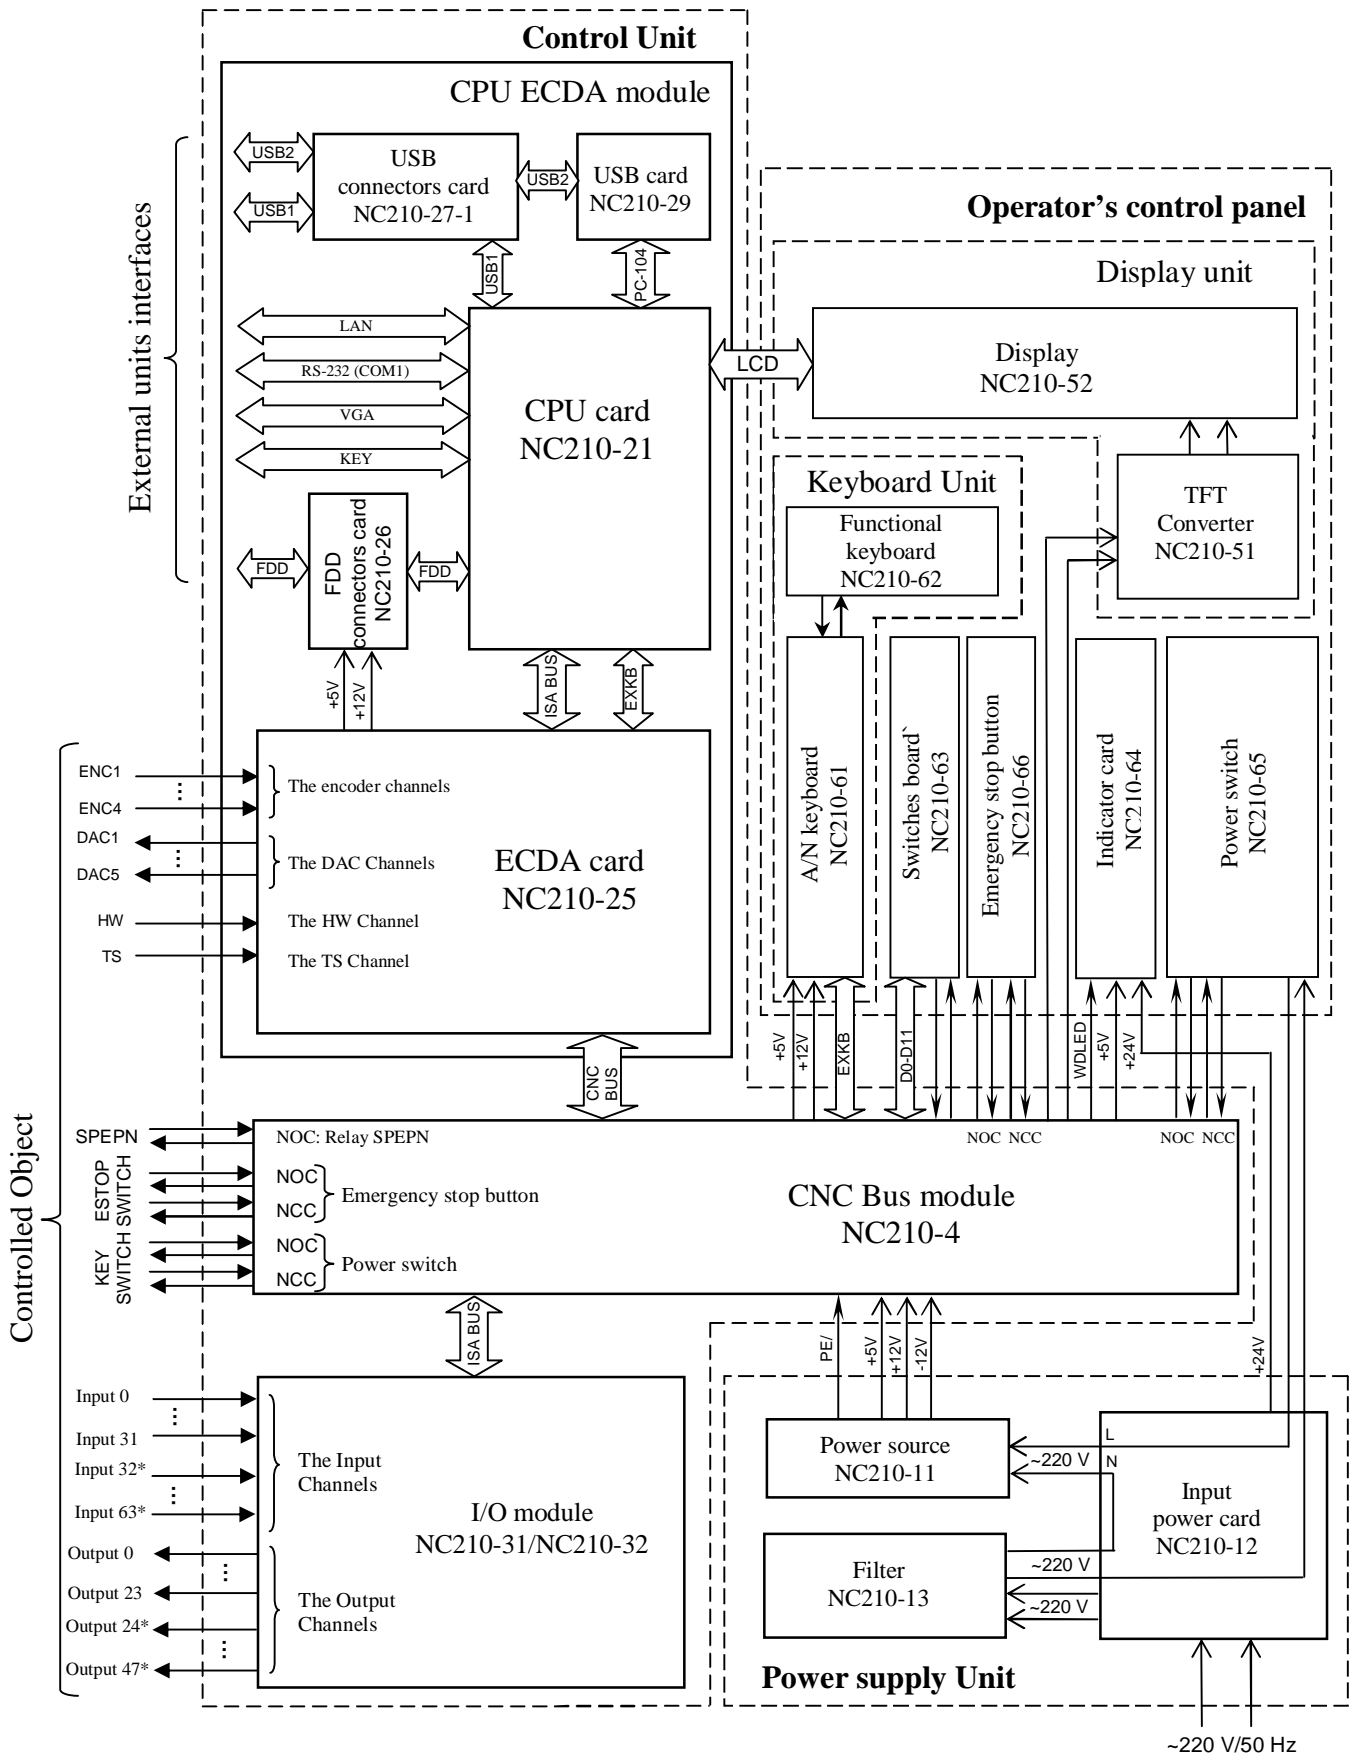

Figure 3.1 – The Structural Diagram of the NC-210 Unit
3.1.1 The CNC Unit is a software-controlled device that incorporates both hardware and software (**SW**) elements. The CNC Unit block diagram is represented in Figure 3.1. The CNC structure incorporates a control unit (**CU**), operator's control panel (**OCP**) and a power supply unit (**PSU**). Connections between the component parts of the CNC Unit and its structural elements, also a brief description of the component parts is presented in Table 3.1.